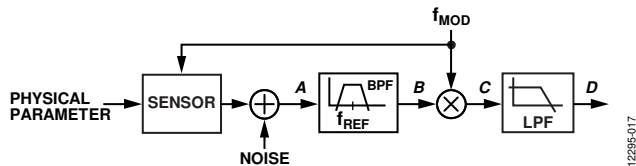

Figure 16. Basic Synchronous Demodulator Block Diagram
Figure 16 shows a basic synchronous demodulation system used for measuring the output of a sensor.
Synchronous demodulation uses the principle of phase sensitive detection to separate the signal of interest from unwanted signals. In Figure 16, the mixer performs the phase sensitive detection. The signal at the mixer output (C) is the product of the reference signal and a filtered version of the sensor output (B). If the reference signal is a sine wave, the physical parameter is a constant and there is no noise in the system. The signal at the output of the BPF is a sine wave that can be expressed as